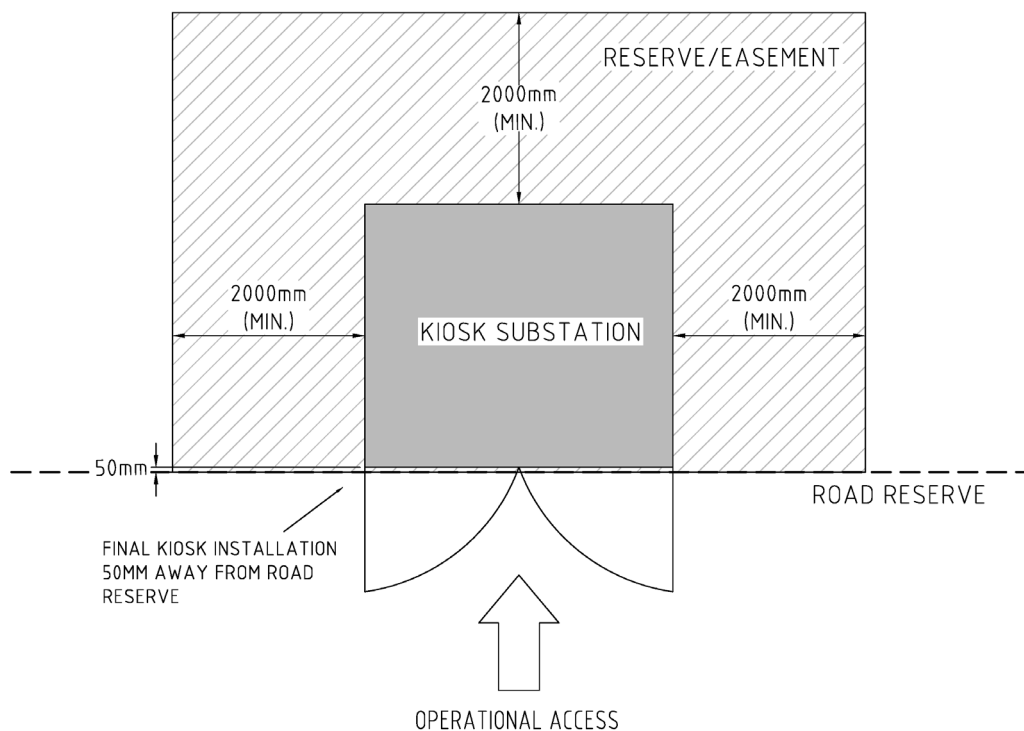
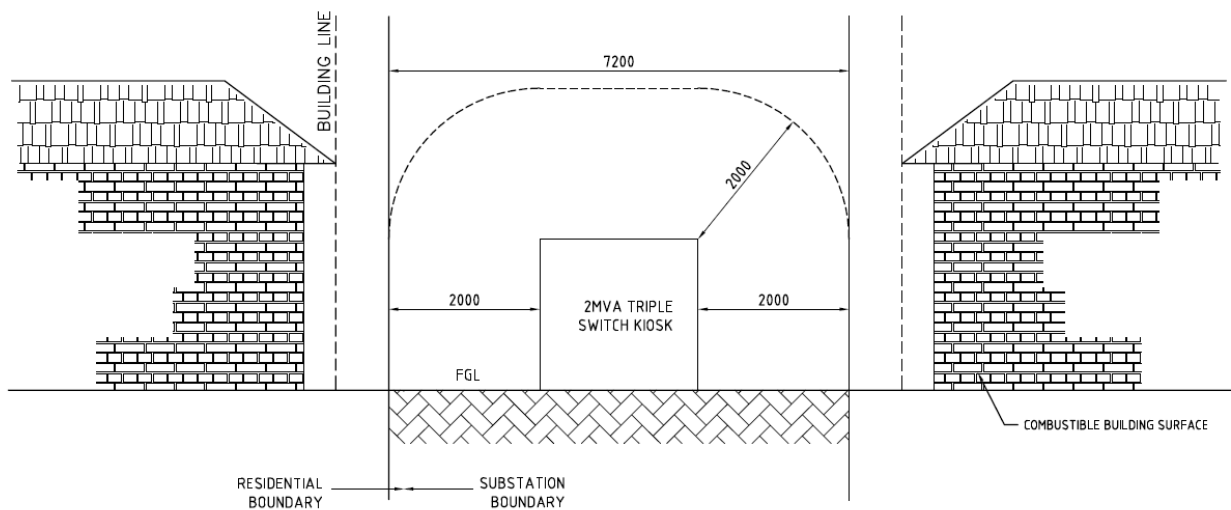

Figure 1 – Square Type 1 Kiosk
Figure 3 – Elevation view of Type 1 & 2 Kiosk Reserves
- 5.1. **Square type 1** – The front of the kiosk is located 50mm from the road reserve as shown in fig 1. Kiosk transformers have both HV and LV compartments accessible from the front (i.e. side by side). Kiosk doors open on road reserve. The minimum kiosk reserve/easement requirements are given in table 2.
- 5.3. **Square type 1 with 2 hour fire rated wall** – Kiosk transformers have both HV and LV compartments accessible from the front (i.e. side by side). Kiosk has two hour fire rated walls with minimum FRL 120/120/120 at the rear and parallel sides and its doors open on road reserve/easement as shown in fig 3. Firewall height shall be a minimum of 2500mm. The minimum Kiosk reserve/easement requirements are given in table 2.
Kiosk enclosure of fig 1 and fig 3 being close to the road reserve will not be acceptable in CitiPower area where due to the amount of other services within the footpath, the required clearances from the earthing system to other services will not be achievable, and where Councils will not accept substation doors swinging across the property boundary.